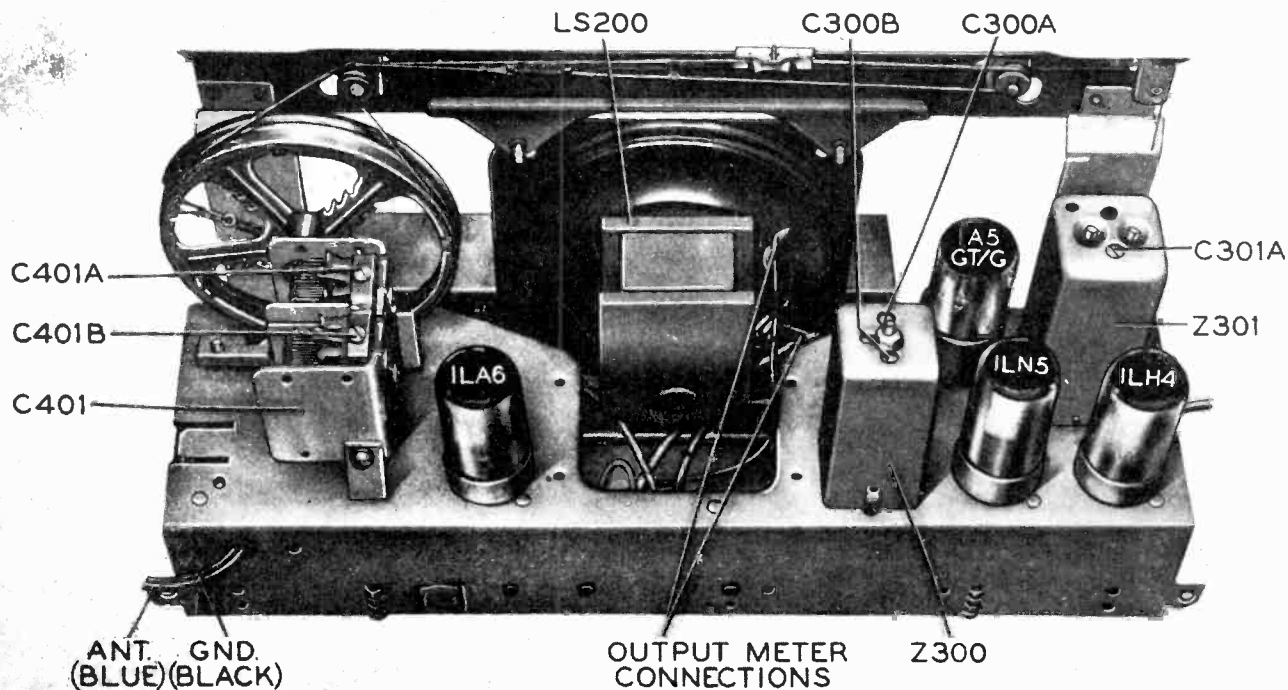

Figure 11. Top view, showing trimmer-condenser locations.
**OUTPUT METER.** Connect to voice coil lugs on rear of speaker, as shown in figure 11.